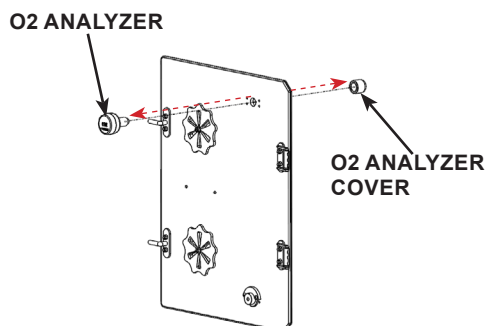

FIGURE 3.18 - O2 Analyzer Removal
- A:** O2 analyzer - Remove the O2 Analyzer by turning the cover (backside) counterclockwise, slide the O2 Analyzer out of the hole. Set aside for the moment. See FIGURE 3.18